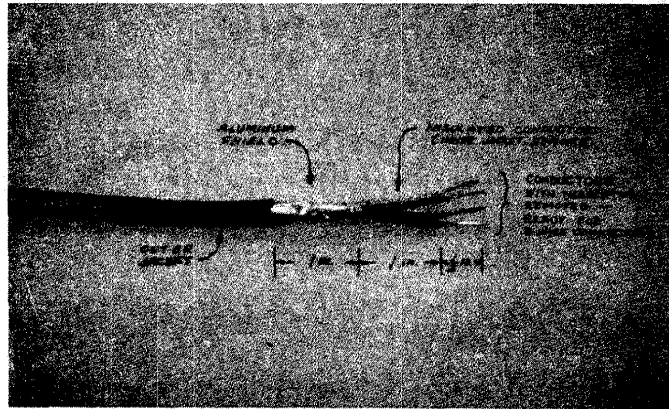

Figure 13
- 3.05 Prepare each B Service Wire as described in Paragraphs 3.01 to 3.04 except the length of exposed conductors should be reduced to $1\frac{1}{2}$ inches as shown in Figure 13.